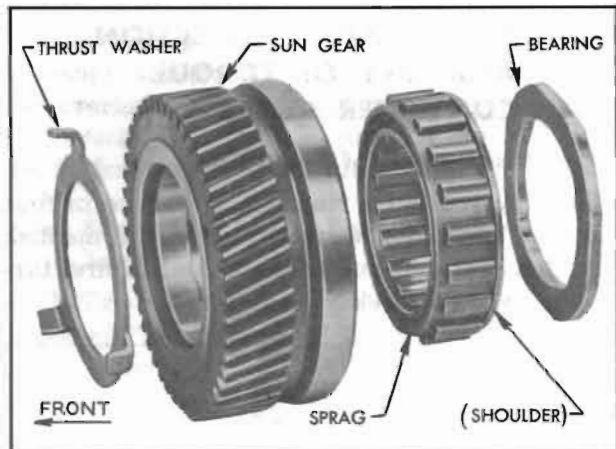

Figure 5-42—Sun Gear Parts
1. Install sprag in bore of sun gear with shouldered end outward then carefully press the bearing in place. See Figure 5-42.